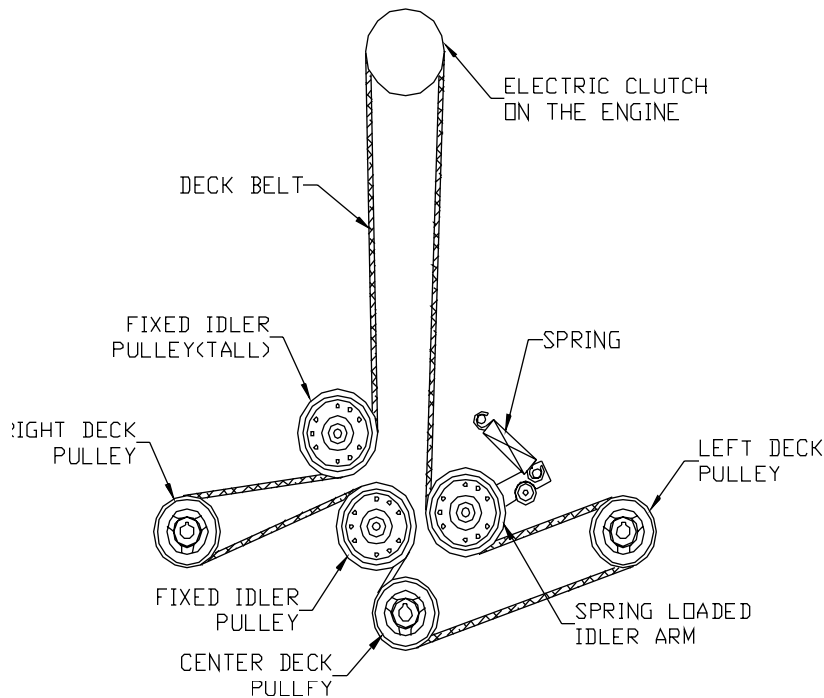

FIGURE 3
5. Remove the hood from the frame and install the deck belt. Be sure the belt is still wrapped around the clutch pulley under the rear deck.(See FIG 3)